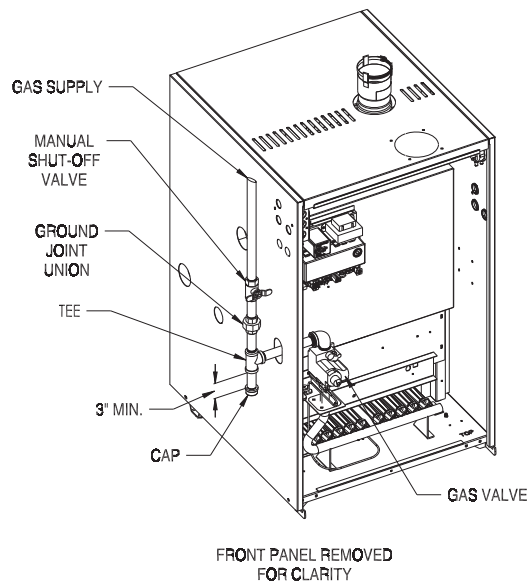

Figure 8.1: Gas Connection To Boiler
- ii. Install sediment trap, ground-joint union and manual shut-off valve upstream of boiler gas control valve. See Figure 8.1.